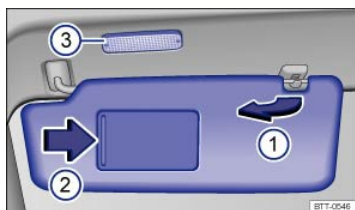

Fig. 80 In the headliner: Sun visor.
- Lift it out of the retaining clip ⇒ Fig. 80① and swivel it over toward the door.
A vanity mirror is behind a cover in the sun visor. Your vehicle may also be equipped with a light ⇒ Fig. 80③ that comes on when you slide the cover ② open.